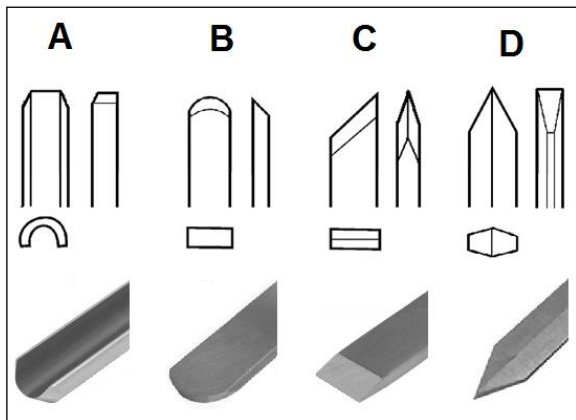
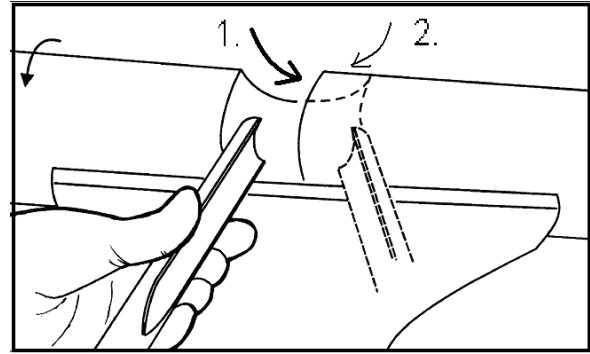

Fig 7
Fig 8
**Gouge (A, Fig 7)**, used for rapidly cut raw wood into round stock, for turning bowls and plates, for turning beds, coves and other detail (Fig 8).
**Scraper (B, Fig 7)**, used for diameter scraping and to reduce ridges.
**Skew Chisel (C, Fig 7)**, used to make vees, beads, etc. (Fig 11). The bevel of skew is parallel to the cut.